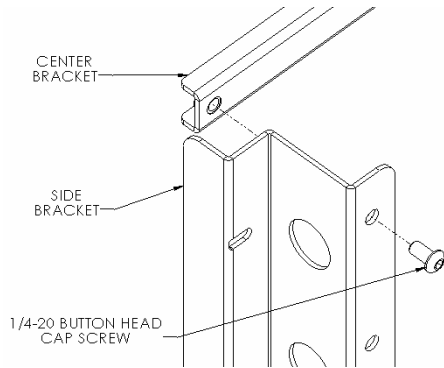
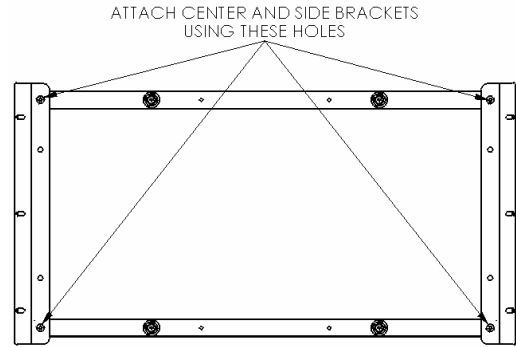

Figure 4
Figure 5
2. Attach center brackets to side brackets using the 1/4-20 screws (see Figure 4 & Figure 5).